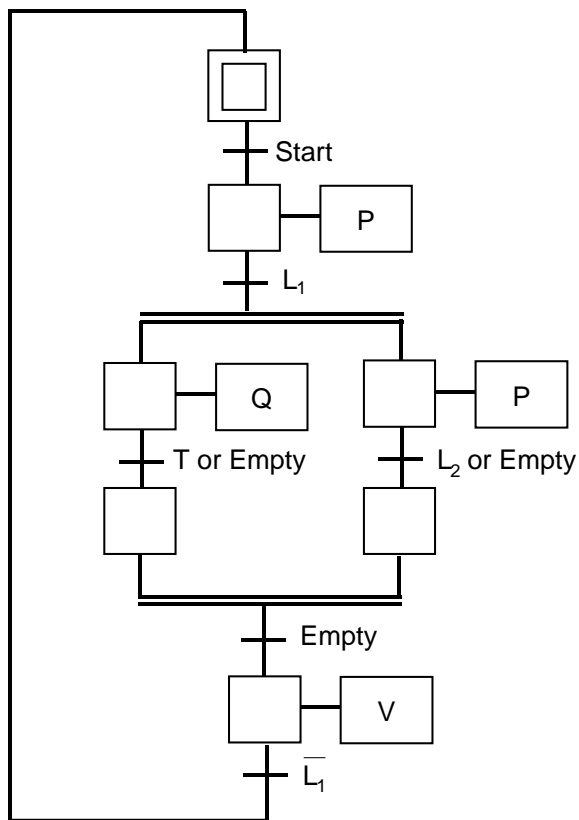

Figure 1 GRAFCET in Problem 8
- 8. One solution is shown in Figure 1. More elaborate solutions are also possible.